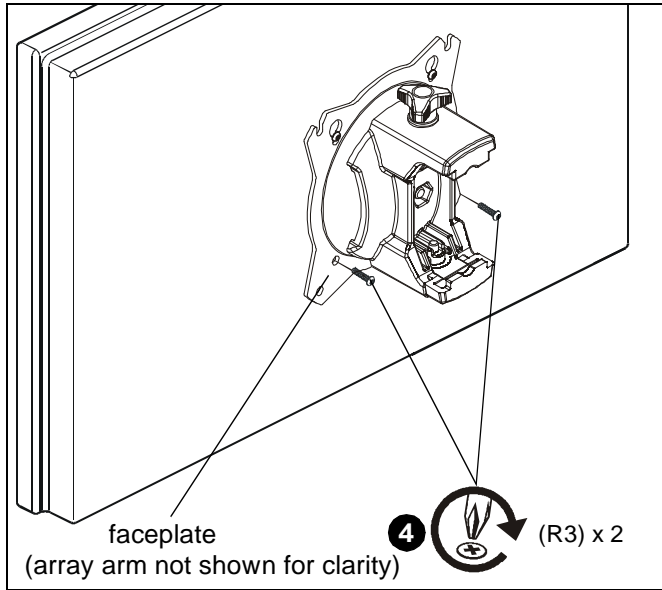

Figure 12
- Using Phillips screwdriver, install two M4x12 mm Phillips pan machine screws (R3) through the *lower* mounting holes on faceplate into the display. (See Figure 12)